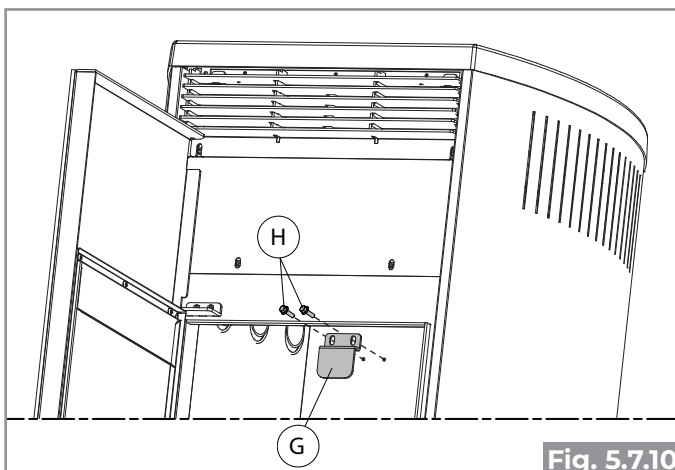
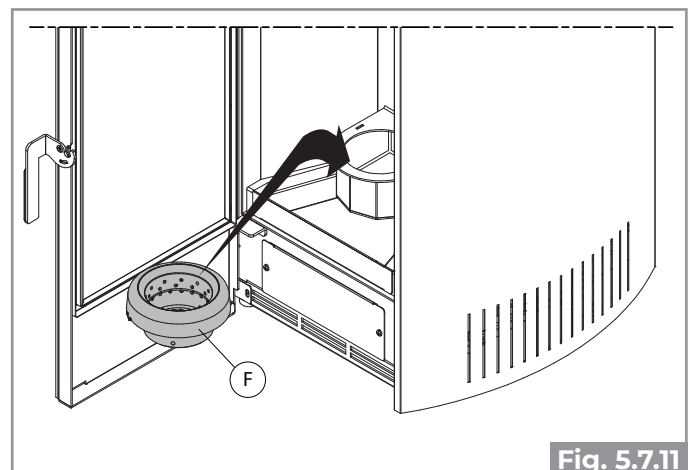

Fig. 5.7.10
Fig. 5.7.11
- Re-install the mounting bracket G by acting on the two screws H (Fig. 5.7.10) and reposition the burn pot F (Fig. 5.7.11).